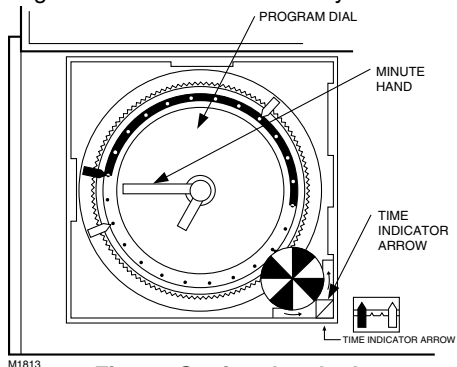

Fig. 3—Setting the clock.
- ❑ After setting the time correctly, the Time Indicator Arrow (triangle shape) will point to the correct time and corresponding daytime (light) or night-time (dark) band of the program dial. See Fig. 3.